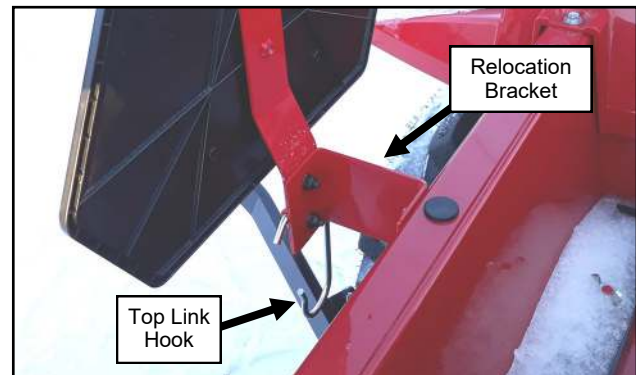

Fig. 26.3 (Install SMV Sign and Top Link Hook)
- 26.3** Install the SMV Relocation Bracket to the rear of the tractor, using the two saved screws, in place of the SMV sign. See Figure 26.3. Install the SMV sign, bracket and Top Link Hook to the relocation bracket using two 5/16 x 3/4" screws and nuts.